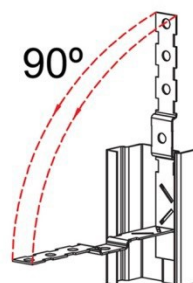

Fig. 1
- > Open the fixing anchors at 90°. Prepare the gap in the wall (thickness $\geq 140\text{mm}$) making the slits where the anchors will be fitted. Fig.1.